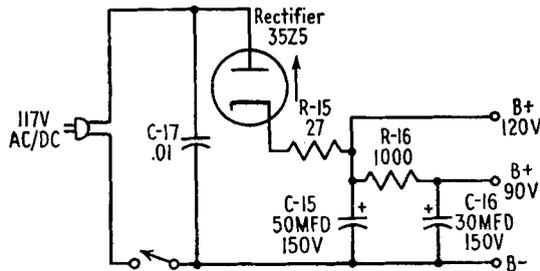
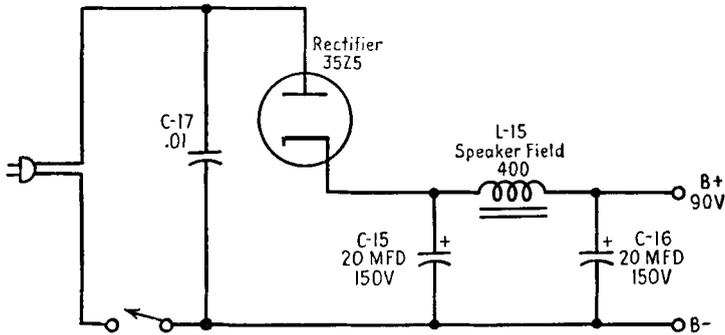

FIG. 18-6. Typical AC/DC *B* power supply.
FIG. 18-7. An AC/DC *B* power supply using an electrodynamic speaker.
**B power supplies in AC/DC receivers.** The *B* power supply in AC/DC receivers consists of a half-wave rectifier and filter circuit. Figure 18-6 shows a typical circuit.
In the half-wave rectifier circuit of Fig. 18-6, current flows from cathode to plate on the half cycle of line current when the plate is positive with respect to common negative. The selenium rectifier, when used, is hooked up in the same way and performs the same function. When the receiver is operated on a DC line, the rectifier simply acts as
The speakers used in AC/DC receivers are usually 4-, 5-, or 6-in. P-M dynamic units, depending on the size of the cabinet in which the receiver is housed. Some receivers use an electrodynamic loudspeaker. In this case, the field coil is used as a filter choke, and the *B* power supply circuit is as shown in Fig. 18-7. These speakers have a field winding of approximately 400 ohms, which drops the *B* voltage to about 90 volts for use on all tubes, including the second AF power tube. Filtering is more efficient than in the R-C filter circuit of Fig. 18-6, and so the filter con-